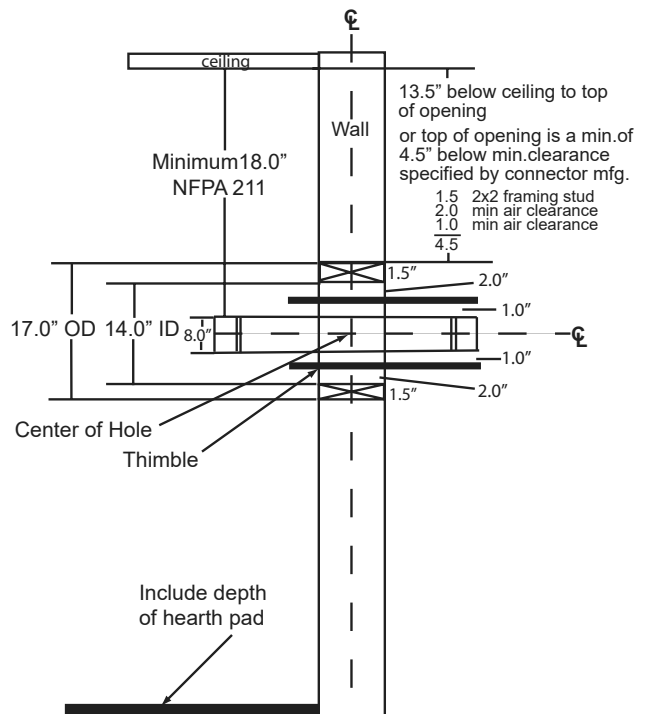

Figure 36.2
- Top of wall opening is a minimum of 13-1/2 inches (343mm) from ceiling or 4-1/2 inches (114mm) below minimum clearance specified by chimney connector manufacturer. **NFPA 211** minimum vertical clearance of 18 inches (457mm) from chimney connector and ceiling or minimum recommended by chimney connector manufacturer (**Figure 36.2**).
1. Open inside wall at proper height for the chimney connector to enter the masonry chimney (**Figure 36.2**).
3. Construct a 17 inch x 17 inch (432mm x 432mm) outside dimension frame from 2 x 2 framing lumber to fit into wall opening. Inside opening of frame should be no less than 14 inch x 14 inch (356mm x 356mm) (**Figure 36.2**).
If that is the case, follow the instructions for a rear installation install the flex pipe to the rear of the pedestal and remove the circular “Knock-Out” in the base of the pedestal. You must seal off the pedestal with non-combustible material (not supplied). The goal is to seal the pedestal so no room air can leak into the pedestal and to seal for cold air infiltration (**Figure 36.2**).